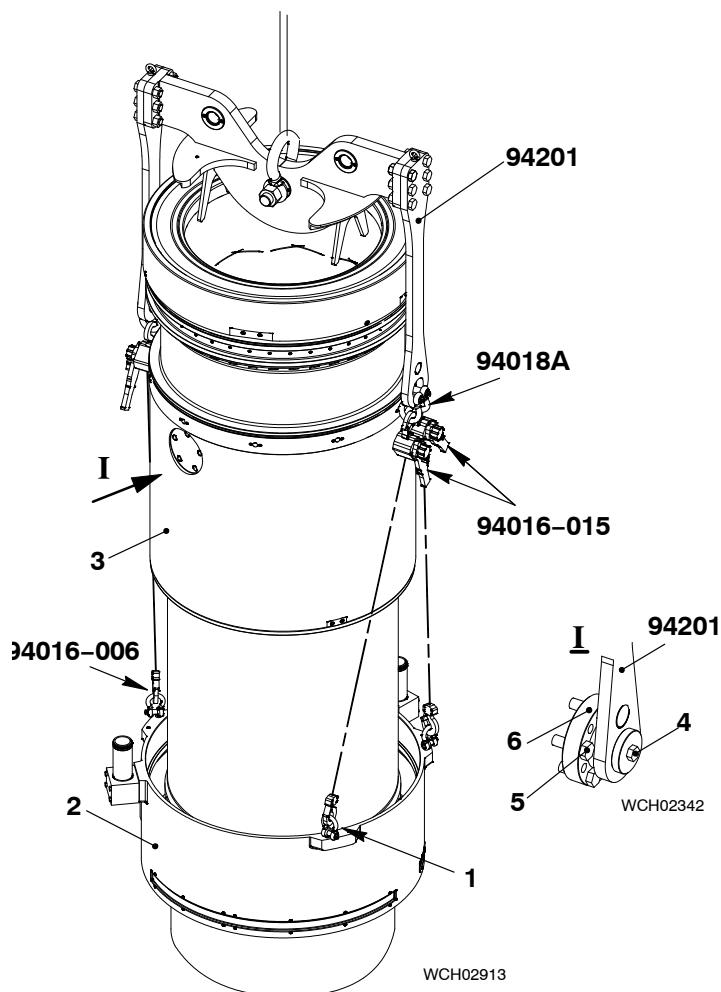

Fig. 7
- 2) Remove the two special screws (4, Fig. 7).
- 4) Lift, move and lower the cylinder liner in the water guide jacket (2).
- 5) Lift the lifting tool (94201) sufficiently to get access to the flanges (6)
- 6) Remove the screws (5).
- 8) Attach the eye bolts (1) to the water guide jacket (2).
- 9) Attach the three manual ratchets (94016-006, 94016-015) to the three eye bolts (1) and the shackles (94018A) on the lifting tool (94201).